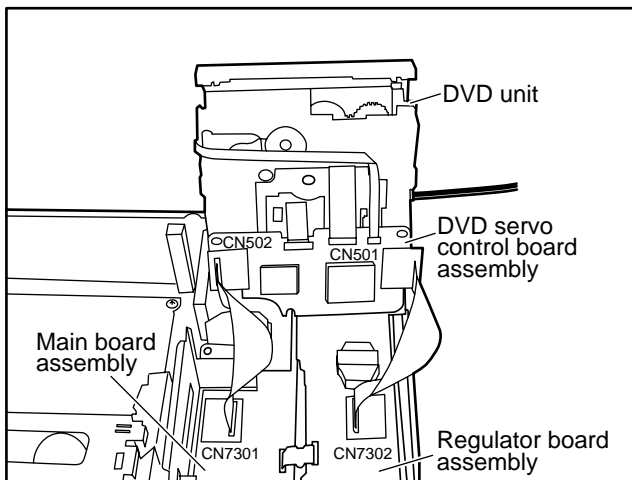

Fig.4-4a
- (1) Remove the DVD unit.(Refer to the SECTION 3 Removing the major parts)
- (2) Connect a extension cord between **CN502** of DVD servo control board assembly and **CN7301** of Main board assembly. (See Fig.4-4a)
- (3) Connect a extension cord between **CN501** of DVD servo control board assembly and **CN5302** of Regulator board assembly. (See Fig.4-4a)
- (4) Remove the DVD servo control board assembly attached the DVD unit.